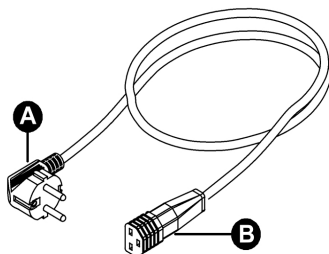

FIG.20
2- Pipe for discharging used water: Connect one pipe end at the pipe fitting (*FIG.20*) and screw it into the used water tap (*FIG. 1–pos.4*), then put the other end in a tank or in the discharge.